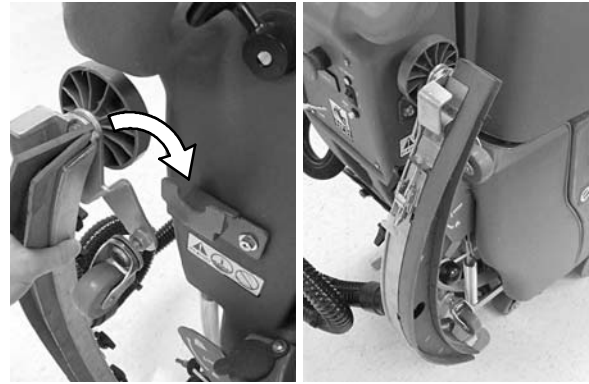

FIG. 24
- When transporting or storing machine, remove the squeegee assembly and hang it on the storage bracket (Figure 24).